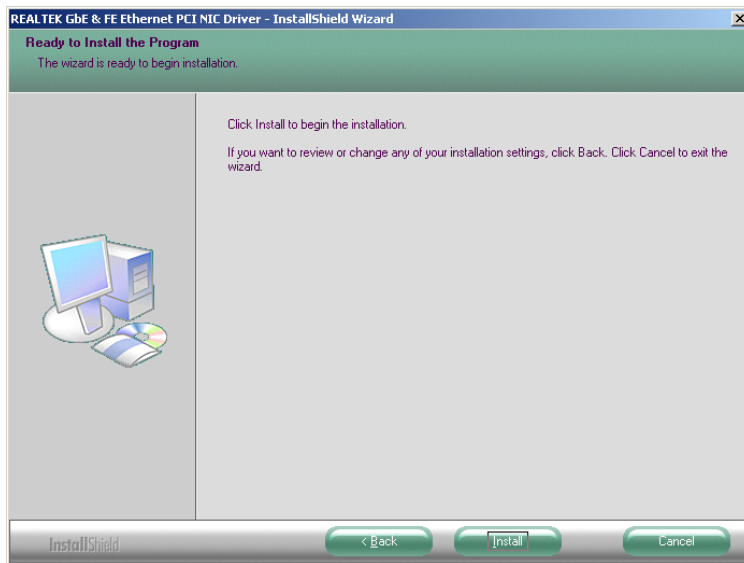

Figure 7-34: RTL8110SC Driver Ready Screen
Step 13: The InstallShield Wizard is ready to install the driver (Figure 7-34).